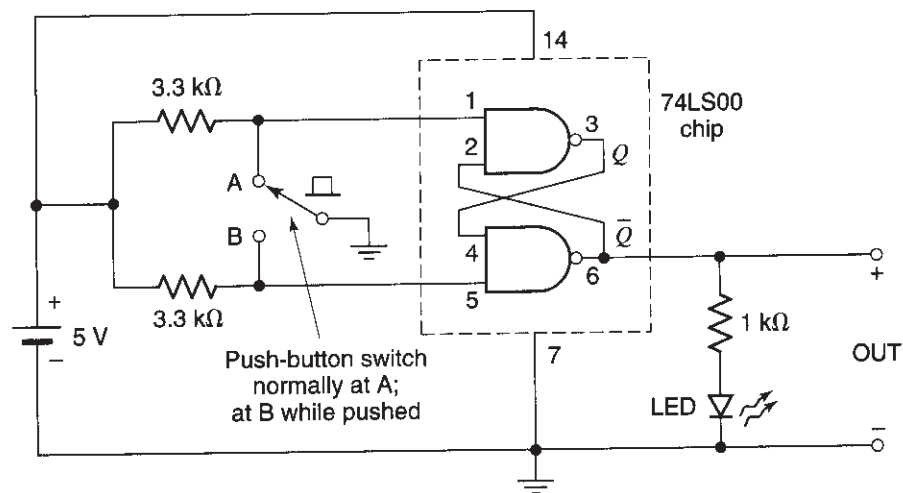

Fig. 3
- DEBOUNCHED CLOCK switch circuit:** Voltages generated by throwing switches that can bounce can be "cleaned," or "debounced," by using an SR latch, as shown in Fig. 3. This circuit is similar to one used in Experiment 14, and can be understood through that material. The switch is normally at A, making the voltage there 0 and the voltage at B high. When the switch is pressed, it momentarily touches B and then bounces. The first of the down transitions in the voltage at B sets the flip-flop, and further ups and downs in that output do not change the flip-flop's state. Similarly, when the switch is released, it touches A and then bounces; the first of the down transitions of the voltage at A resets the flip-flop. Thus, the output voltage of the circuit is a clean 1 or 0 and is oblivious to switch bouncing. This voltage can be used to drive other digital circuits. To conclude, then, the output of this circuit is normally 0 and becomes "clean" 1 for as long as the switch is pressed.